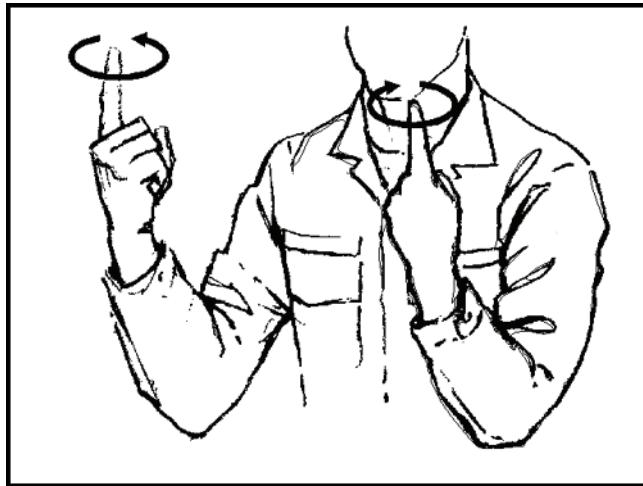

Figure 3-11. Primary arm-and-hand signal for POSITION.
- **Primary signal** (Figure 3-11). The rappel master extends both arms to the front, elbows bent, forearms pointed upward, fists clinched, and index fingers pointing upward. He makes a circular motion with both forearms rotating in opposite directions.